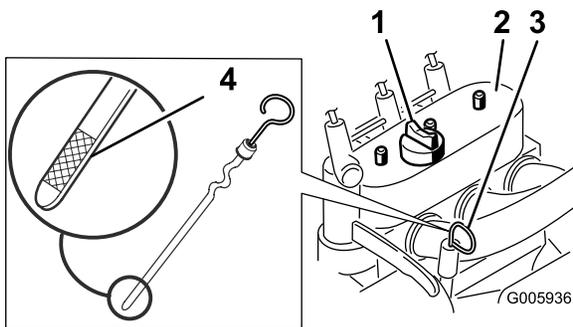

Figure 13
4. Clean around the oil dipstick (Figure 13).
5. Pull out the dipstick and wipe the metal end clean (Figure 13).
6. Slide the dipstick fully into the dipstick tube (Figure 13).
8. If the oil level is low, clean around the oil filler cap and remove the cap (Figure 13).